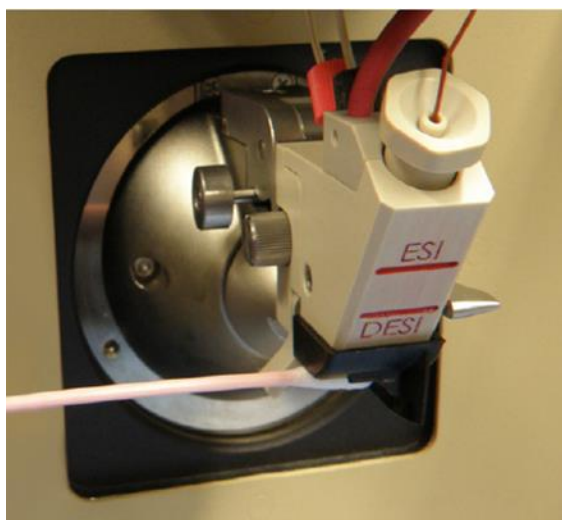

Figure 2.7 – Analysis from side of swab
4. The source is now ready for swab presentation. The swab guide allows the user to present the swab from a side orientation (Figure 2.7).